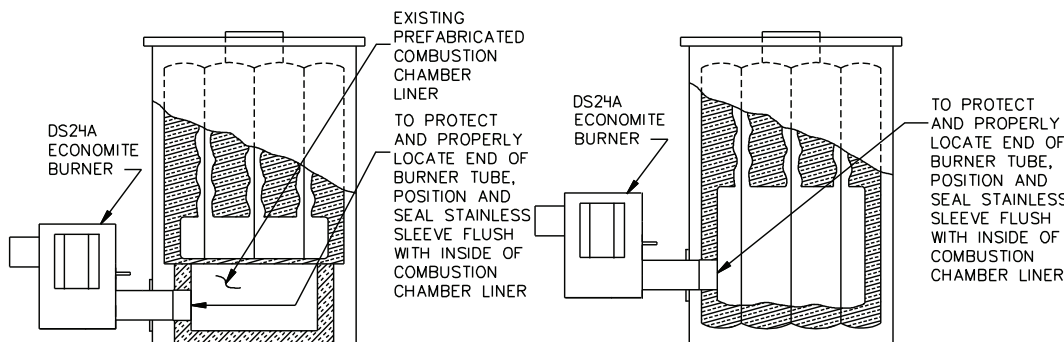

Figure 1 -
- The burner tube, or the stainless steel sleeve that is included with the burner, must be sealed air tight into the combustion chamber liner opening with refractory material as shown by Figures 1 and 2. The sleeve is preferred as it is designed to properly locate the end of the tube relative to the inside wall of the combustion chamber, and to permit burner removal without breaking the seal.
⚠ WARNING: Burner cabinet must be mounted in orientation shown in Figures 1 and 2. Any other mountings may cause a dangerous condition, and will void burner warranty and agency approvals. Non-standard arrangements may be available for some models; consult factory for details if required.